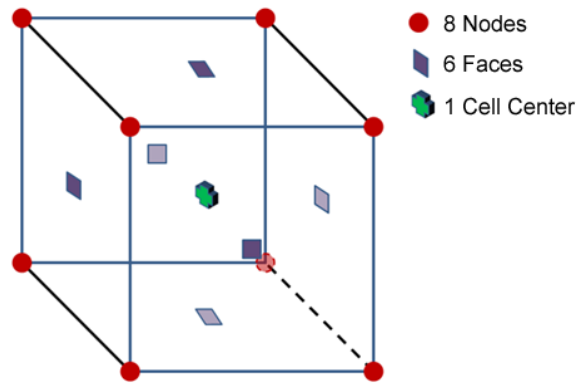

Figure 2.1: Variable locations with respect to a single cell.
Variables can be stored at several different locations. Variables are defined with respect to how they relate to a single cell in the computational domain. They may be located on the faces (FC) or nodes (NC) of the cell, or in the center (CC) of the cell (see Figure 2.1).